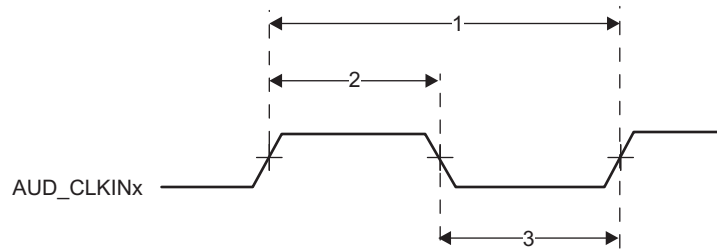

**Figure 7-13. AUX\_MXI/AUX\_CLKIN Timing**
**Table 7-16. Timing Requirements for AUX\_MXI/AUX\_CLKIN (1) (2) (see Figure 7-13)**